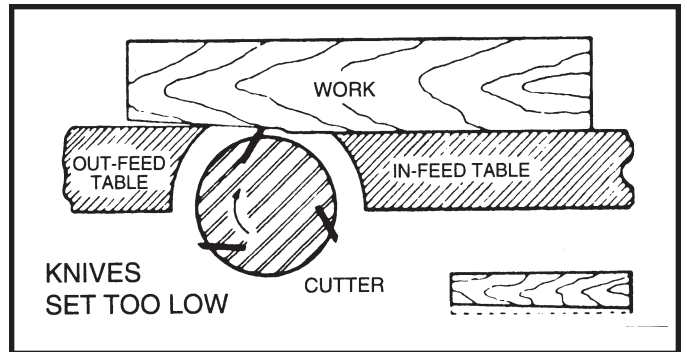

Fig. 29
7. If the knives are set too low, the result will be as shown in Fig. 29, and the surface will be curved.